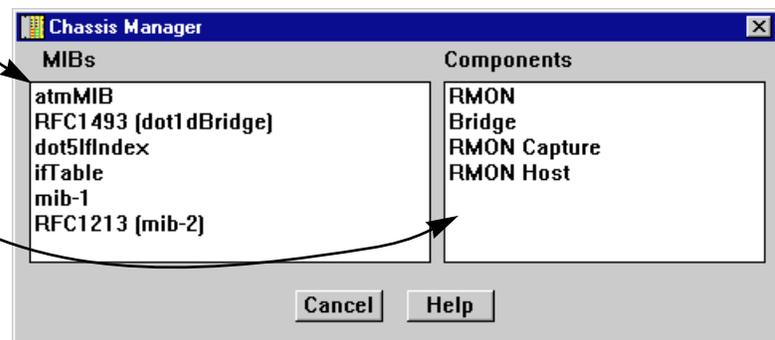

Figure 2-4. Chassis Manager Window
The Chassis Manager window (Figure 2-4) is a read-only window that displays the MIBs and the MIB components — and, therefore, the functionality — supported by the currently monitored device.
2. Click on **MIBs Supported**. The Chassis Manager window, Figure 2-4, will appear.